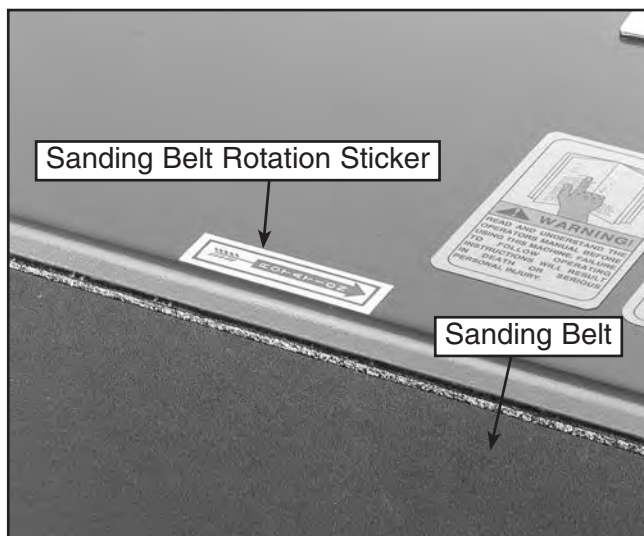

Figure 10. Sanding belt rotation arrow.
2. The sanding belt should rotate in the same direction as the arrow sticker in **Figure 10**.